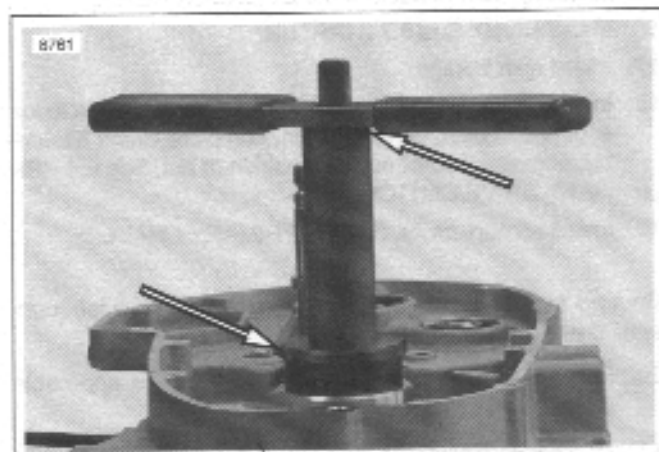

Figure 3-154. Sprocket Shaft Seal/Spacer Installer
10. See Figure 3-154. Use SPROCKET SHAFT SEAL INSTALLER (Part No. B-45676) to install sprocket shaft seal.